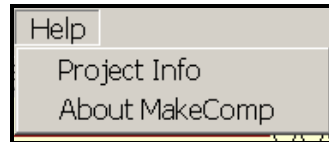

Figure 18. Help Menu
As shown in Figure 18, the **Help** menu contains two (2) choices. Each item is discussed below.